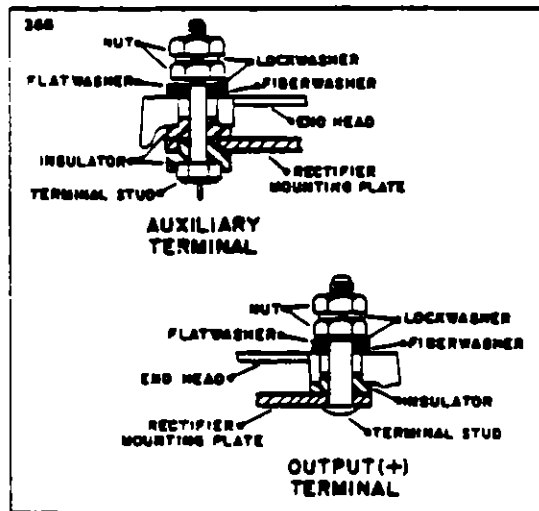

FIGURE 9-27k. TERMINAL ASSEMBLY
c. Reassemble the rectifier mounting plate studs and insulators, making sure they are in the correct order. (Refer to Figure 9-27k.)